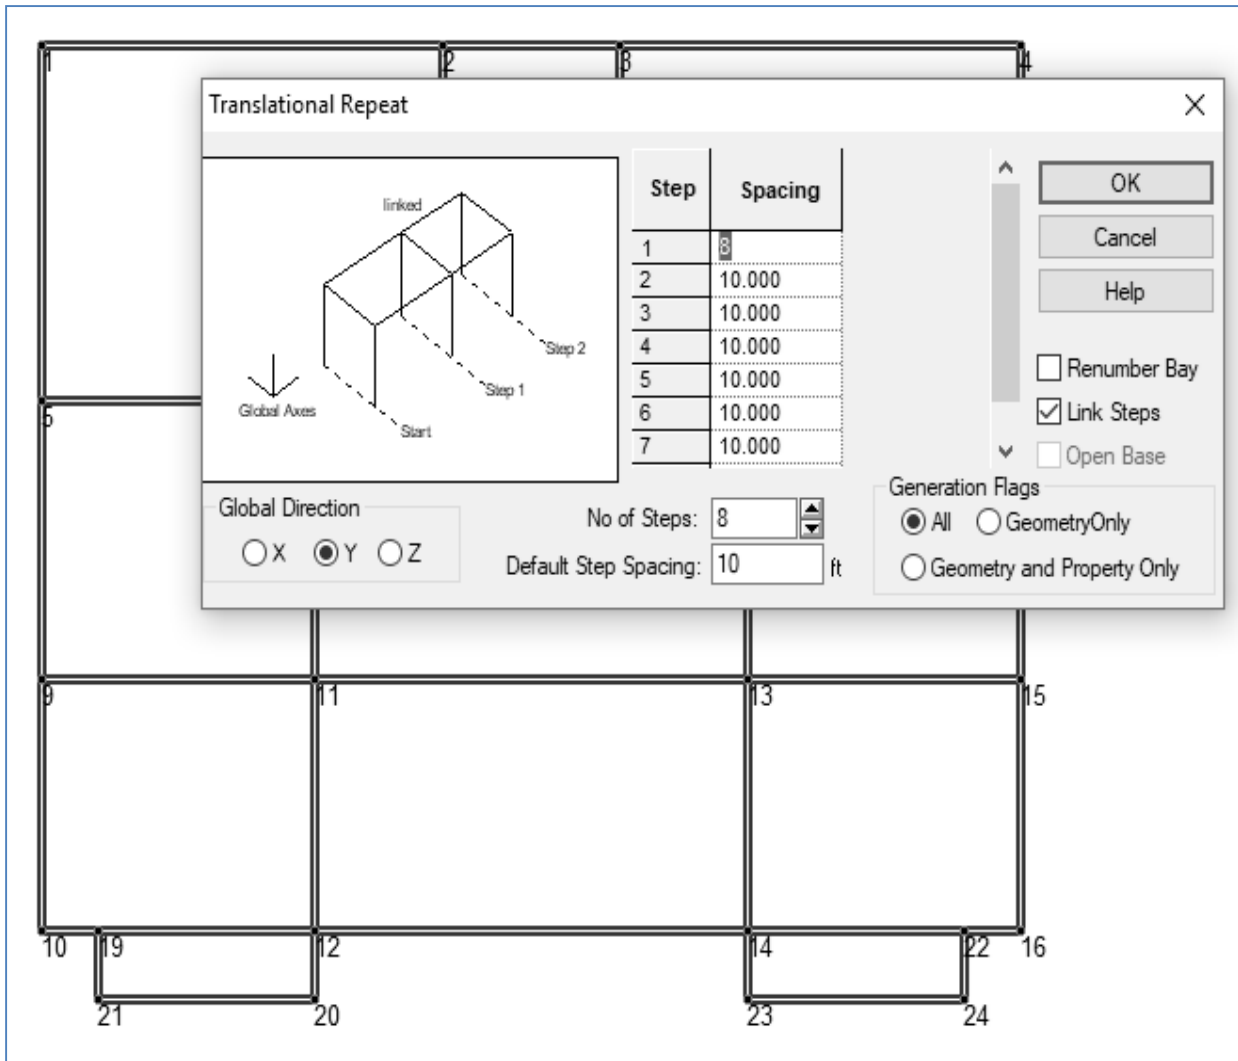

Fig. 5.10
- 1.2.7 Now Story Create: Select whole structure → Geometry → Translational Repeat → Select Global Direction = Y → No of Steps = 8 (7 story + 1 is bottom story for base) → Default Step Spacing = 10 (Typical story height) and Step1 = 8 → Click on Link Steps → OK (Figure: 5.10).